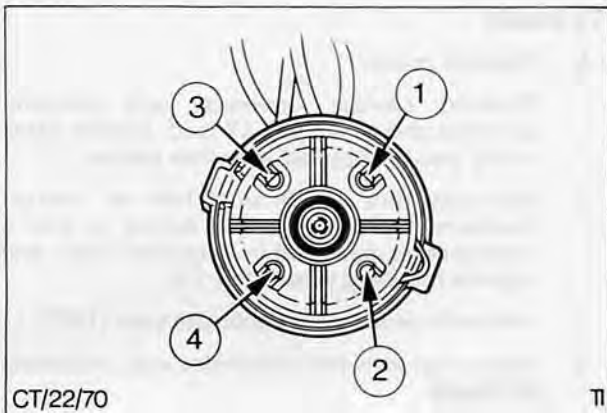

Fig. 58. Motorcraft distributor cap showing HT lead connections
4. Reconnect HT leads in correct order, Fig. 58. and clip cap in position.